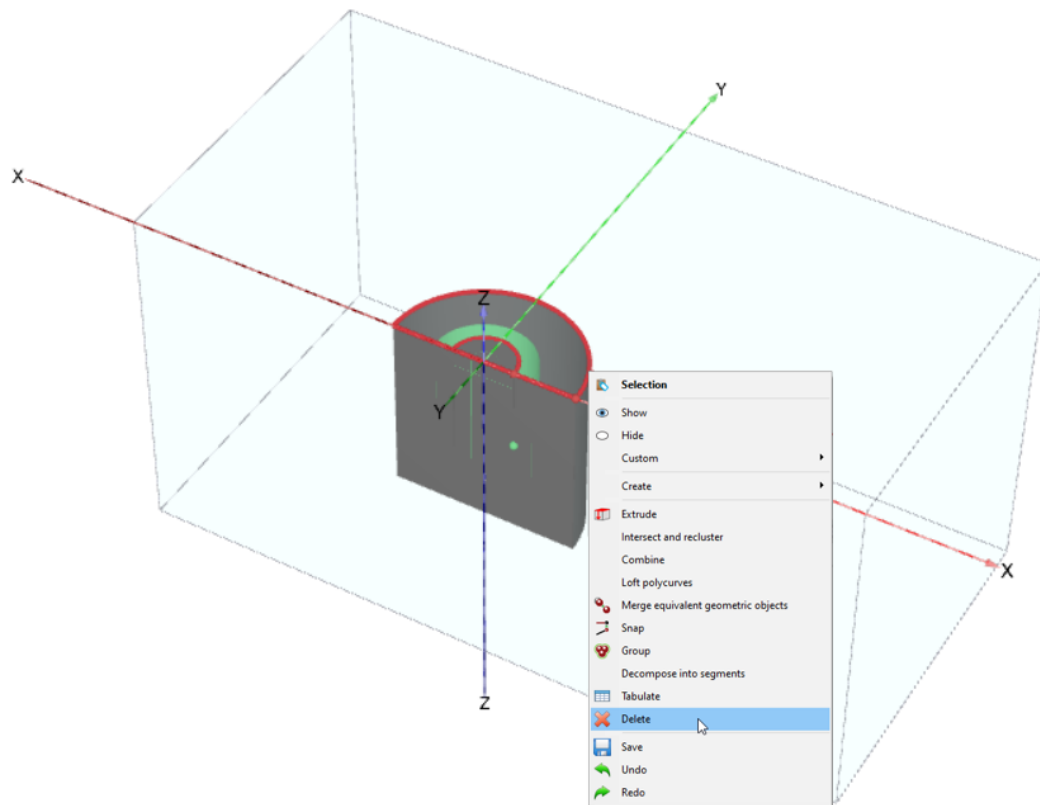

Figure 47: Deleting the two created polycurves
7. Select the just created polycurve and the polycurve of the suction pile created earlier, right-click and select **Delete** from the appearing menu as shown in Figure 47 (on page 69).